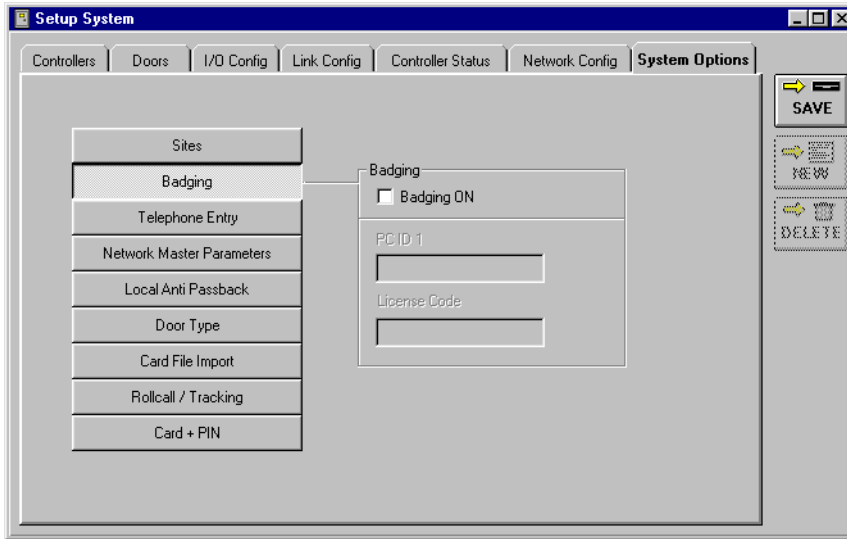

Figure 15: System Options Tab
- Click the **System Options** tab. The System Options window appears (see Figure 15 on page 15).
- Click the  button to bring up the badging field (see Figure 15 on page 15).
- If your application does not use badging, verify the “Badging ON” check box inside the “Badging” field is blank (see Figure 15 – this is the default value).